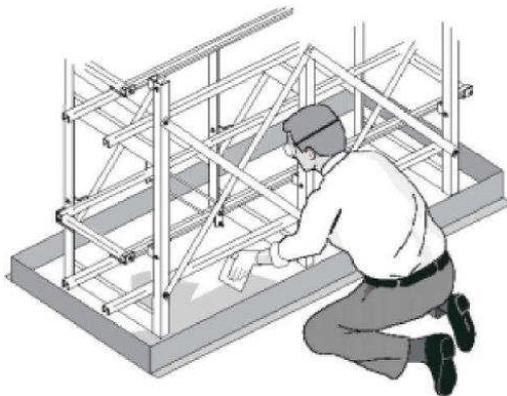
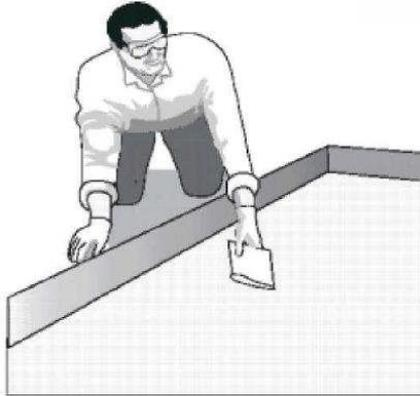

Figure 6.1 – Spreading Acidsafe Around Existing Racks
Figure 6.2 – Spreading Acidsafe in New Installations
- 6.3 Pour and spread the Coating evenly over the floor inside the containment area using a plastic spreader or putty knife (Figure 6.2). If installing the coating under an existing rack, try to allocate equal amounts of coating material between each set of rack frames. Spread the coating using a 1/4 inch v-notch spreader to obtain a uniform thickness. Figure 6.1 shows coating being applied under a rack. Note that the batteries are not illustrated for reasons of clarity; batteries DO NOT need to be removed in order to apply the coating.